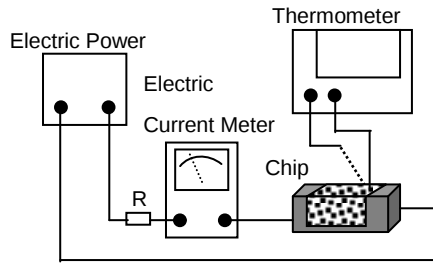

Fig. 5.3.3-1
- d. Definition of Rated Current (I_r): I_r is direct electric current as chip surface temperature raises just 20°C against chip initial surface temperature (T_a). (see Fig. 5.3.3-2):